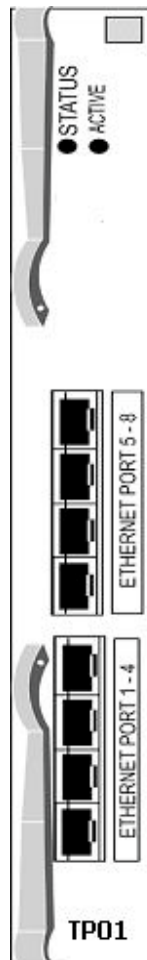

Fig.2 TP01 card illustration
2. Each card has 8 ports. (see fig. 2) Connect LAN switch to one of the ports on one node. At the other node also, use same numbered port for connection to LAN switch. Use CAT 5E cable with RJ45 connectors to make the connections.
Observe the connector panel and label the numbers shown in figure 2 below: